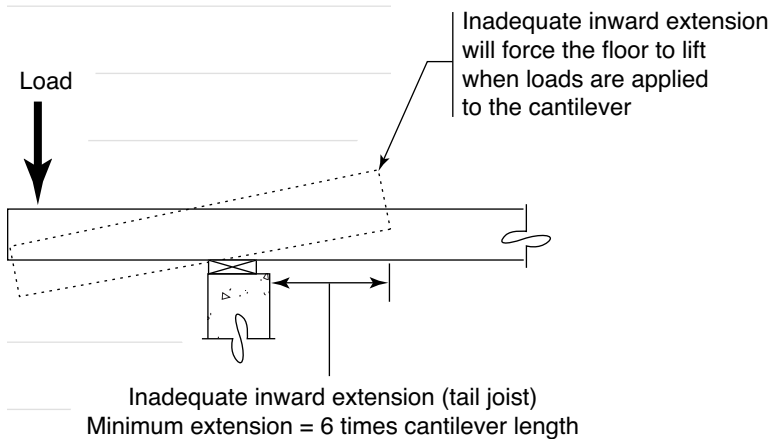

FIGURE 19
- ◆ When cantilevers are at right angles to the main floor joists, the tail joists (inward extensions) must be extended back into the floor framing by a length at least equal to six times the length of the cantilever. This will prevent an upward movement at the end of the tail joists, especially in high loading situations (see Figure 19).